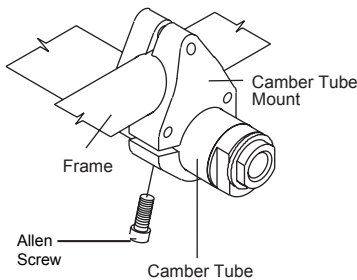

Figure 69
2. Loosen, but do not remove, the Allen Screw that secures the camber tube to each camber tube mount. See Figure 69.